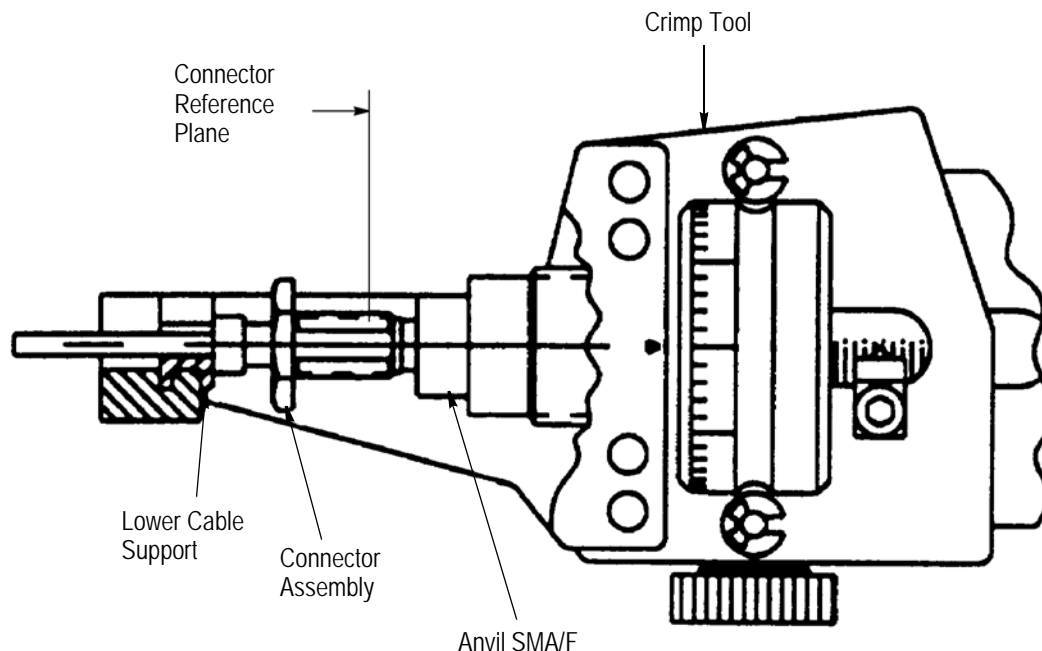

Figure 5
3.3. Installing Cable into Connector Assembly (Figure 5)